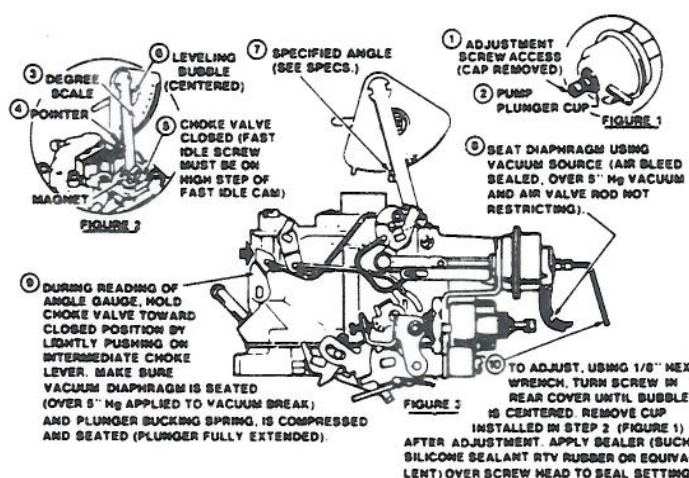

Fig. 12 Primary vacuum break adjustment. 1982 E2SE carburetor
1. Rotate degree scale until zero is opposite pointer, then with choke valve completely closed and fast idle screw on high step of fast idle cam, place magnet squarely on top of choke valve and rotate bubble until it is centered, Fig. 12.